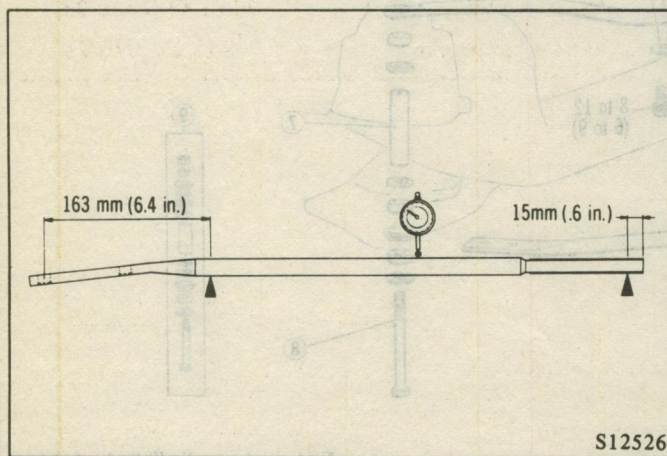

Fig. 32 Checking for Bend of Strut Bar
- (1) Place the stabilizer on a level surface and check it for deformation (permanent set). Replace if excessively deformed. (Fig. 32)
- (2) Check the stabilizer bushing, the strut bar bushing and the cushion rubber for cracks and damage.
- (3) Check the threaded portion and the lower arm fitting area of the strut bar for cracks and bends.